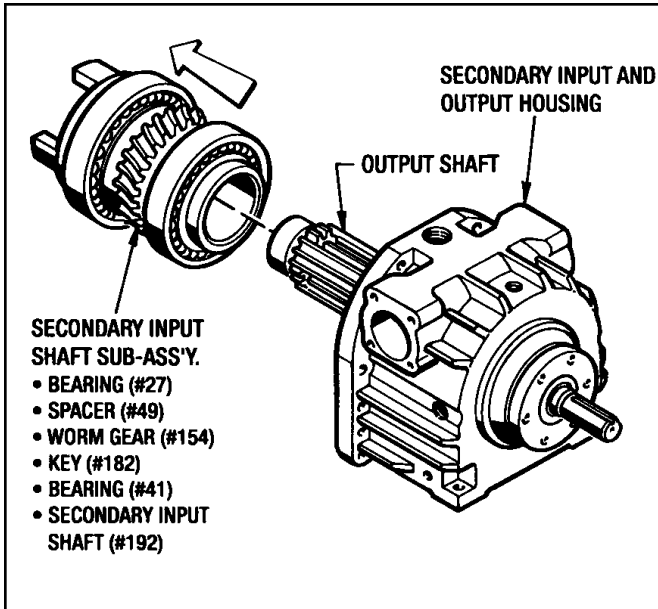

Figure 7.12 - Removing Secondary Input Shaft Sub-Assembly
1. Unscrew (6) Screws (#159) and (6) Lockwashers (#128) and remove the Bearing Retainer (#162).
3. Slide the Secondary Input Sub-Assembly out of the housing over the Output Shaft. (See Figure 7.12)